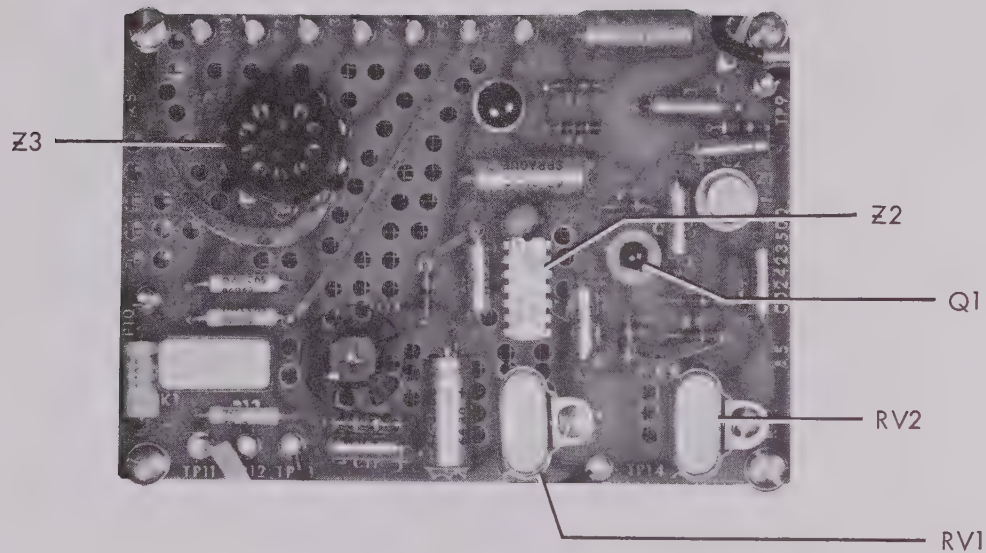

Figure 3-54. Board A5 Preamp. Power Amp. and Therm. Bridge C02423500
e. **Preamplifier, Power Amplifier and Thermistor Bridge, Module A5.** (See Figure 3-54) The low level output from the 32 MHz low-pass filter is amplified and the gain controlled in the two integrated circuit wide-band amplifiers, Z1 and Z2. Photo resistive units, CK2074, in the feedback circuits of these amplifiers control the gain. The control voltage comes from the ALC circuit on Module A6. Full Generator output power is delivered by emitter follower, Q3, to the output step attenuators and the impedance matching networks.